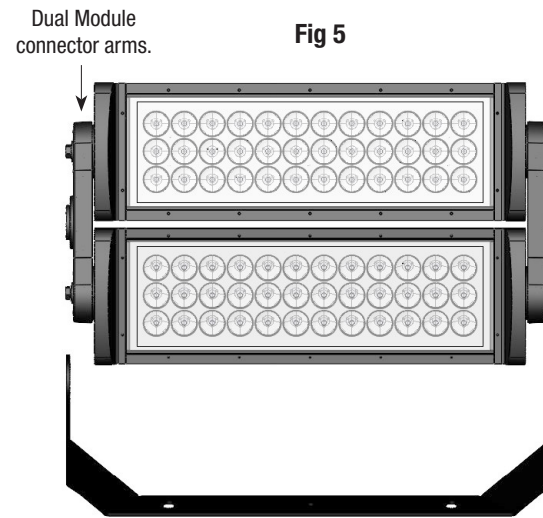

Fig 5
- 6) To complete the Dual Module (2M) assembly of the head and U bracket arm, place the bracket arm over each end of the connector arm center holes and rotate the connector arms to the desired position. **Fig 5**